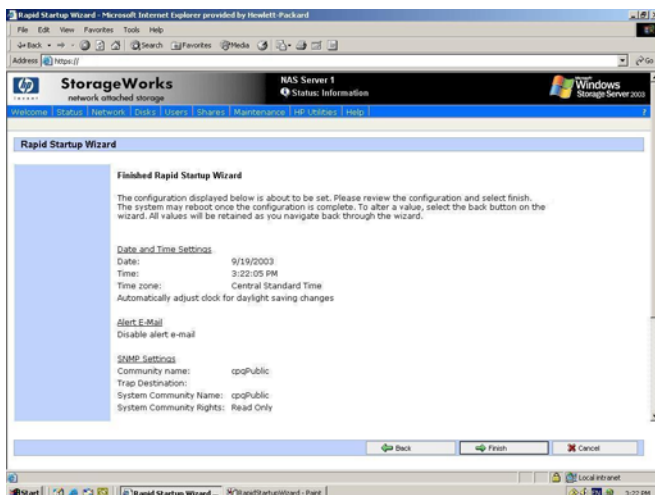

Figure 2 Rapid Startup configuration review window
8. Verify that the information is correct when the configuration review window is displayed (see Figure 2).